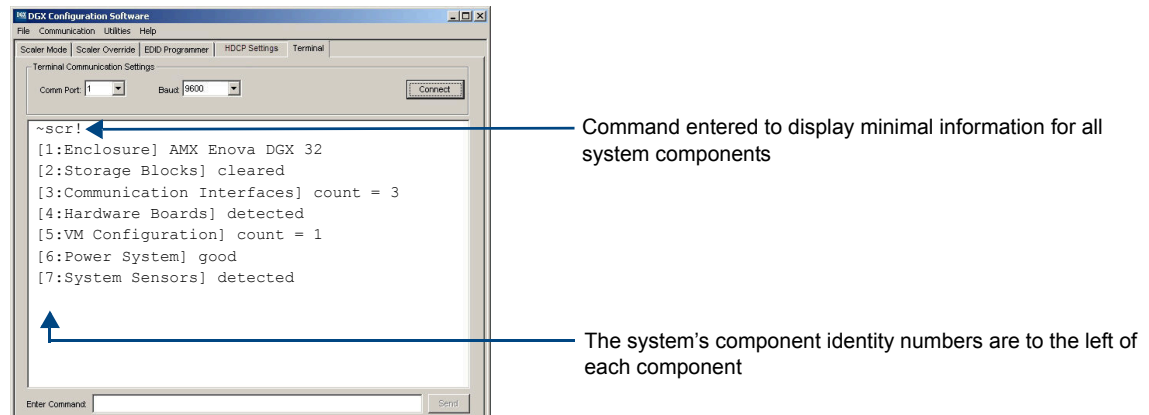

FIG. 117 Example of a default Enova DGX 32 splash screen
The splash screen can be accessed using a terminal emulation program, such as the Terminal view in DGX Configuration Software (see page 187). One of four verbosity** settings is specified, which provides either a list of the seven system components with minimal information (FIG. 117) or a level of detailed information on one of the seven components. Only one verbosity setting and one component setting can be entered in a command. The order in which the verbosity and component settings are entered is interchangeable.
- If both settings are omitted during a query (`~scr!`), the information displayed will be at the lowest verbosity level for all components (v0i0) (FIG. 117 on page 212).
Note: Either of these commands provides a “menu” of the identity numbers and their corresponding components (FIG. 117 on page 212).